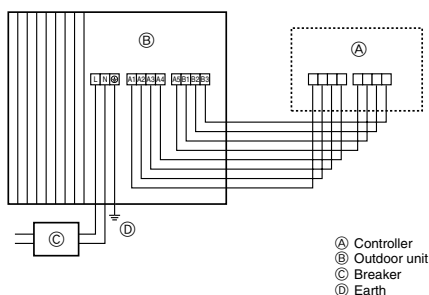
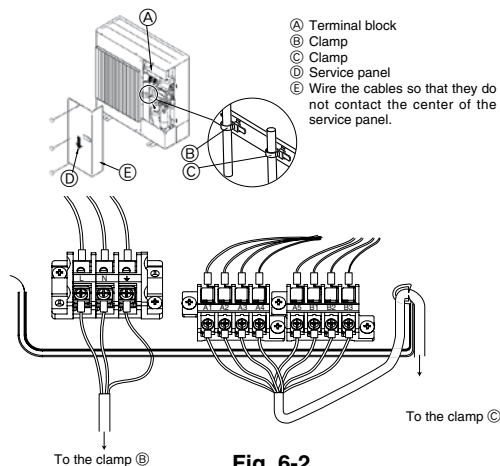

Fig. 6-1
Fig. 6-2
6.1. Outdoor unit (Fig. 6-1, Fig. 6-2)
- ① Remove the service panel.
- ② Wire the cables referring to the Fig. 6-1 and the Fig. 6-2.